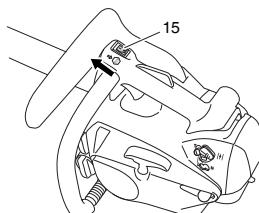

Fig. 11
2. Set ignition switch (15) to ON position. (Fig. 11)